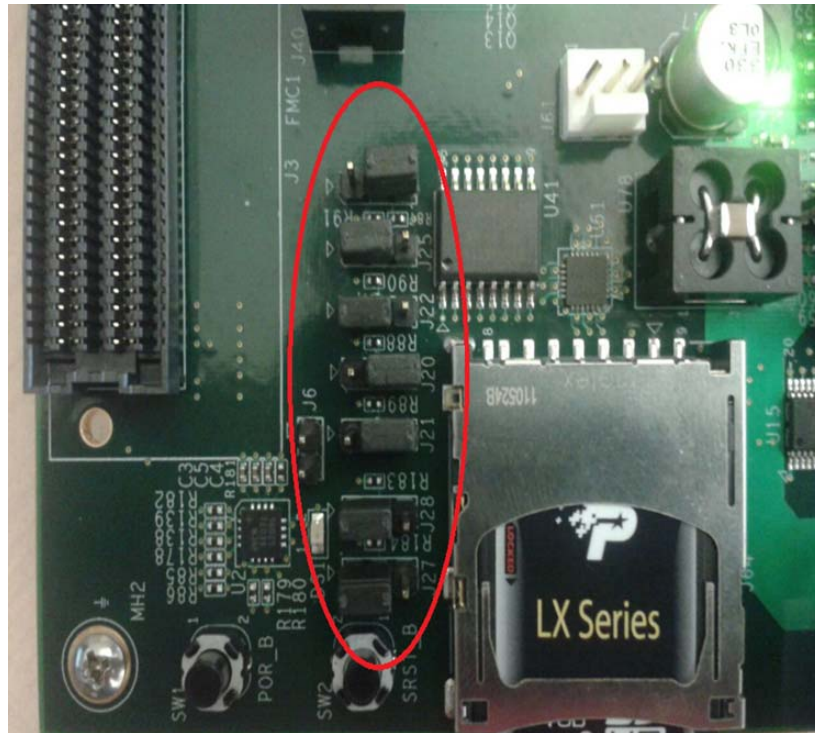

Figure 5-5: Jumper Settings for Booting Linux from SD Card
1. Change the settings for Jumpers J20, J21, J22, J25, J26, J27, and J28 as shown in Figure 5-5.